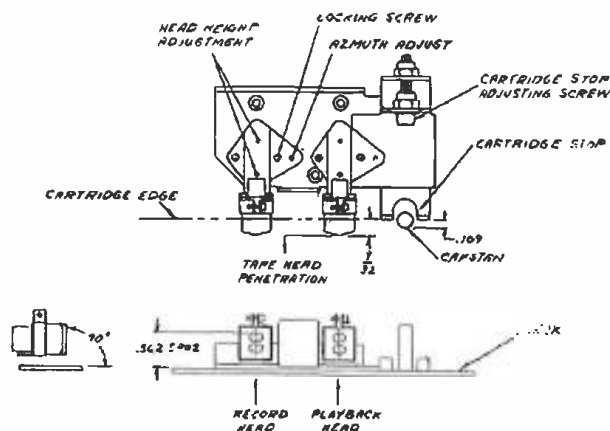

FIG. 3
2. Loosen the head clamp and remove the head. After the new head is installed refer to Fig. 3 for proper placement.
Refer to Fig. 3.
Observe Fig. 3 for details. This stop prevents the capstan from rubbing on the cartridge. Adjust the stop to provide $1/32$ " of clearance between the capstan and the cartridge. Try a number of cartridges as they vary slightly.
This should be checked every six months or whenever the heads are replaced. Observe Fig. 3 for details. Position the tape head in the head bracket so that it penetrates the cartridge $9/32$ ".
This should be checked every 6 months or whenever the heads are replaced. Observe Fig. 3 for details. Adjust the head height by adjusting the two set screws front and rear. The correct head height is .562 inch, $\pm .002$ inch, to the top of the upper head piece. It is important that the front edge of the head be square with the deck surface.